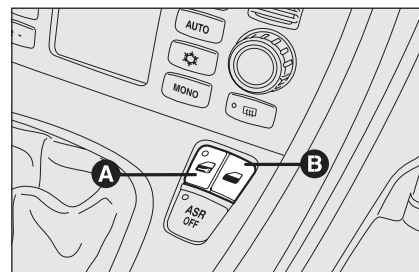

fig. 15
- ☐ button **A** and **B** for locking/unlocking the doors **fig. 15**;